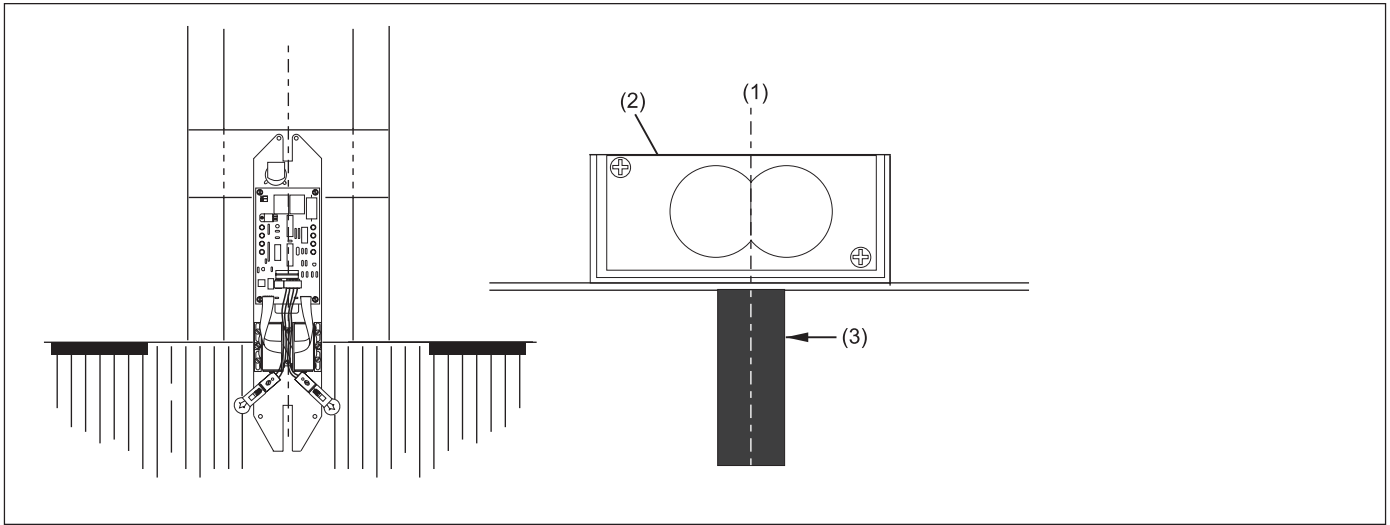

Figure 9.
3. Position the Tel-E-Foul unit with the center of the optical head lenses on the center of the foul line and the unit centered on the ball return. Refer to *Figure 9*.